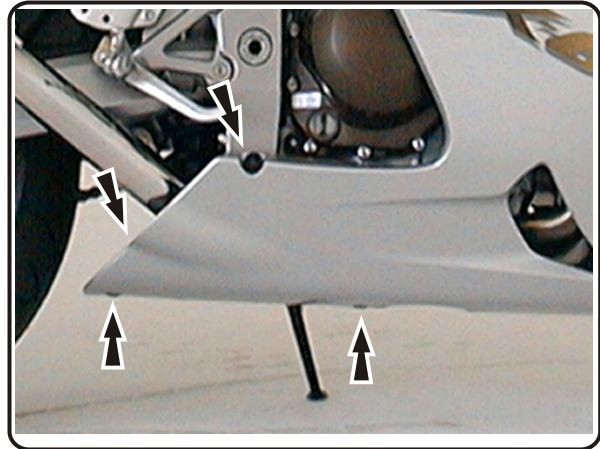
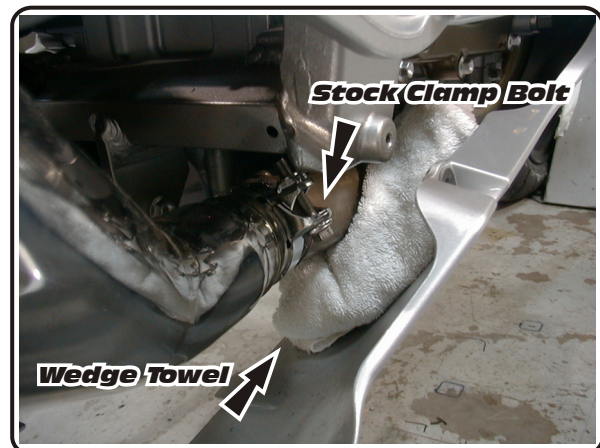

Fig. 1
Fig. 2
1 Remove lower cowling retaining clips and mounting bolt. (See Fig 1). Carefully wedge a towel or cloth between stock header and lower cowling to obtain sufficient clearance to remove stock tailpipe (See Fig 2)
3 Apply muffler clamp heat insulator to inside of muffler clamp and slide clamp onto muffler. (Note orientation of clamp in Fig. 1)
4 Mount clamp to stock muffler bracket using stock bolt, washers and nut. (See Fig. 1) Hand tighten bolt only at this point.
- 7 Drill 13/64" hole thru end of header at the center of the securing hole in Yoshimura tailpipe. (See Fig.2) (Caution: Always wear eye protection when using any power tool.)
- 10 Check for proper clearance between new exhaust system and swing arm. If any problem is found, please carefully follow through the installation steps again. If problem still persists, please call Yoshimura tech. Dept. at (800)634-9166 / in CA (909) 628-4722